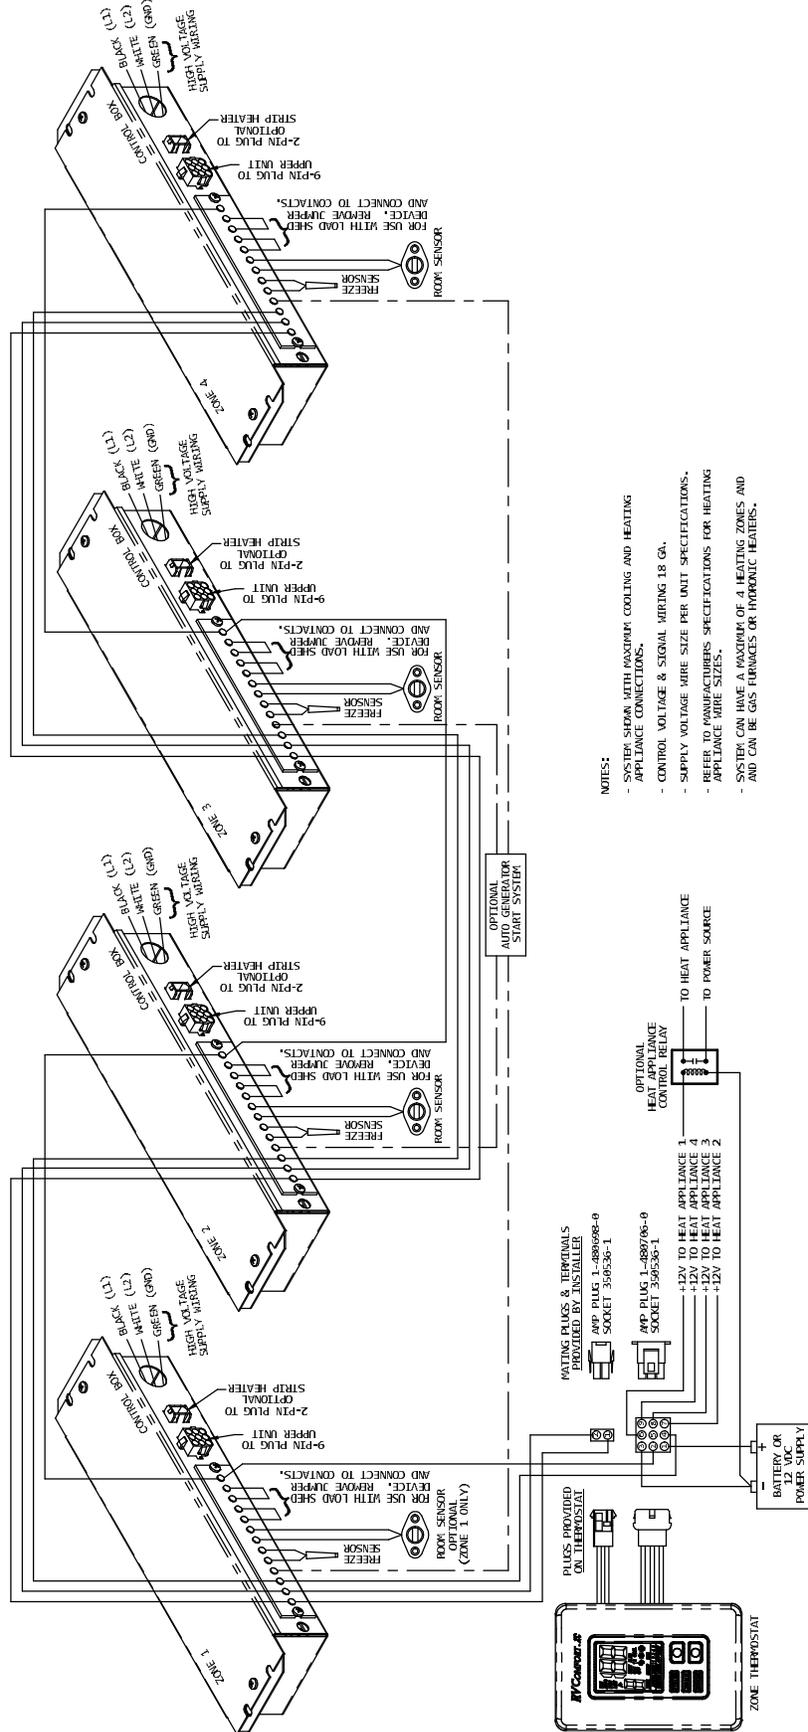

FIGURE 5
- (2) Any color for heat load shed (optional)
B. See Figure 5 for wiring requirements for multiple zones.
Zone 2 is wired in by jumpering from Sig 1, Sig 2, B- and R+ on Zone 1 box to Zone 2 box. Zone 3 is wired in by jumpering from Sig 1, Sig 2, B- and R+ on Zone 2 box to Zone 3 box. Zone 4 is wired in by jumpering from Sig 1, Sig 2, B- and R+ on Zone 3 box to Zone 4 box (See Figure 5).